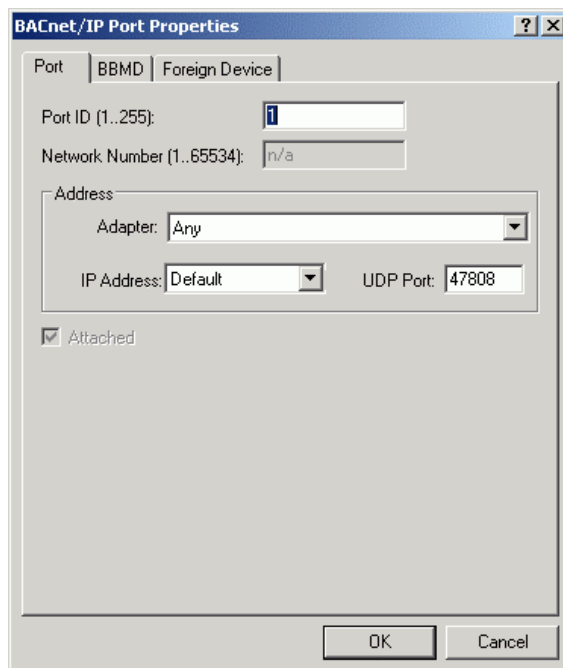

Fig. 2-16: Properties of the BACnet Service
9. In this dialog, you will configure BACnet access as needed (see Fig. 2-16).